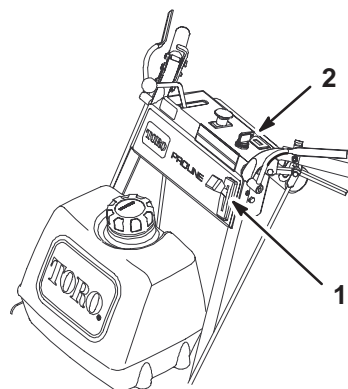

Figure 15
1. Move the throttle lever to the Slow position (Fig. 15).
4. Turn the ignition key to Off (Fig. 15).